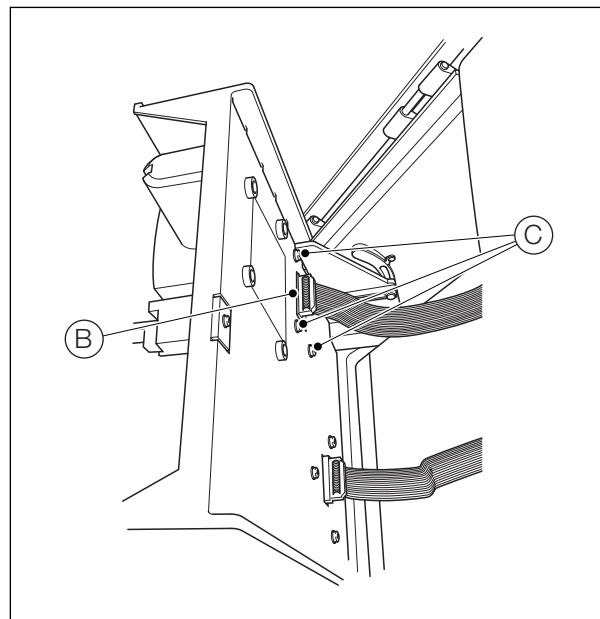

Fig. 13.9 Removing the Measurement Cell Assembly
2. Referring to Fig. 13.9:
- a. Disconnect the measurement cell ribbon cable (B) from the connector on the back of the measurement cell.
- b. Remove the four M4 screws (C) and remove the measurement cell assembly.
14. Referring to Fig. 13.9:
- a. Locate the measurement cell assembly onto the analytical section back plate and secure with the four M4 screws (C).
- b. Reconnect measurement cell ribbon cable (B).